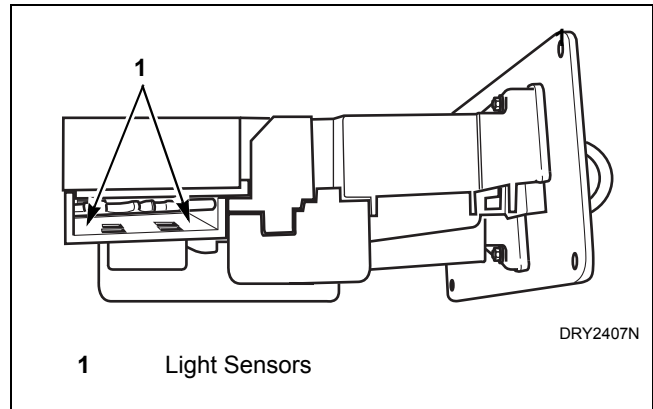

Figure 9
6. Clean light sensors with a soft brush or air spray duster. Refer to *Figure 9*.